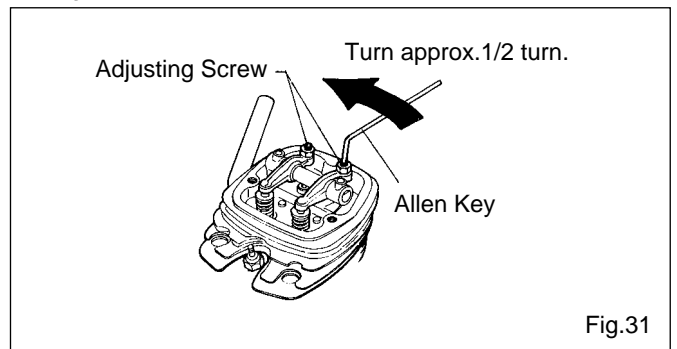

Fig.31
2. Turn adjusting-screw approx. 1/2 turn counter-clockwise to open gap, using appropriate tool -i.e. Allen hex key. (Fig.31.)